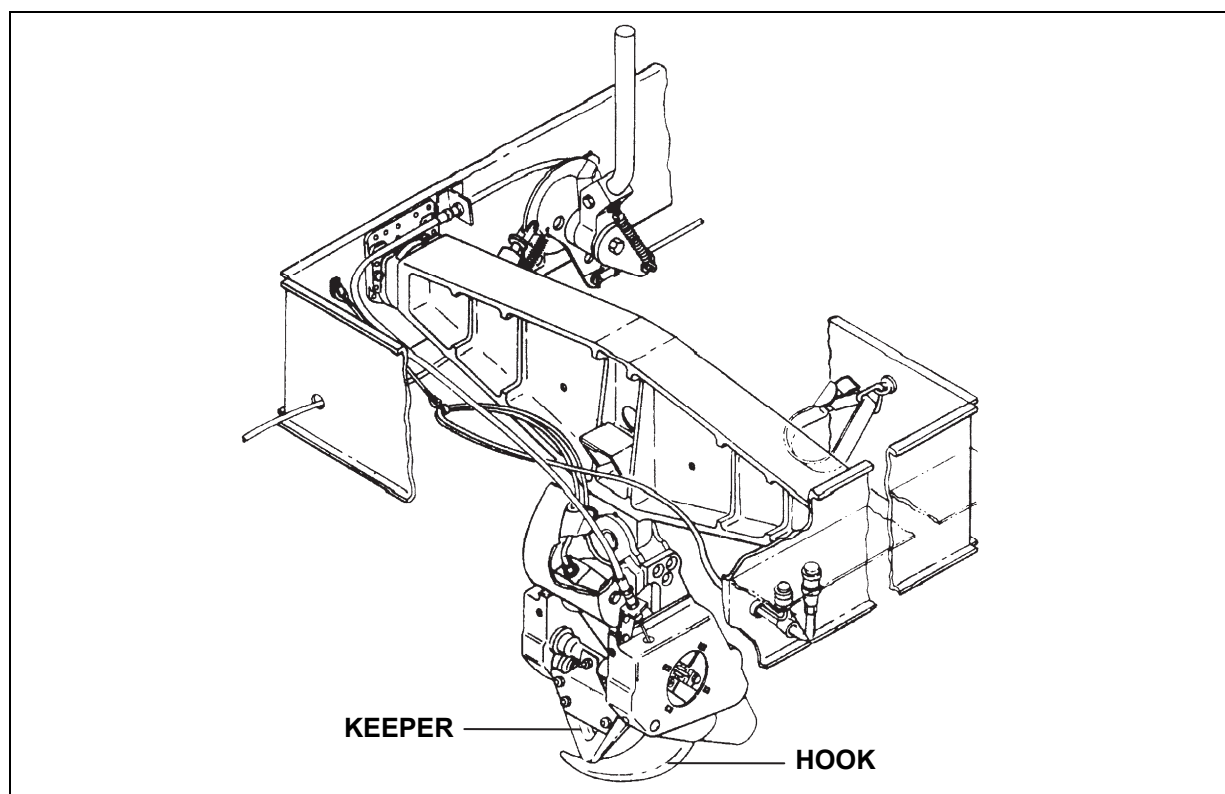

Figure 2-14. H-47 Center Cargo Hook
- The center cargo hook maximum capacity is 26,000 pounds and is attached to an I-beam mounted in an opening in the floor (figure 2-14). The aircrew can open the cargo hook electrically or manually. The manual release is not accessible to the ground crew; therefore, the ground crew must manually depress the spring-loaded keeper and remove the apex fitting from the cargo hook.